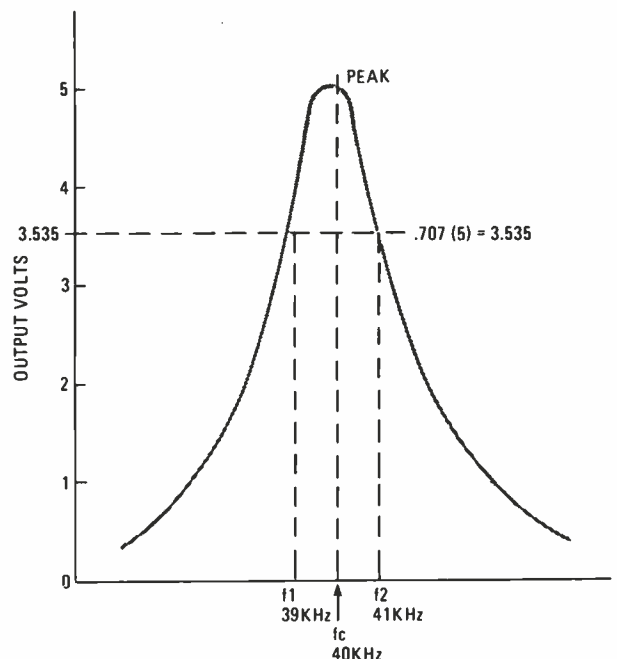

Fig. 6—A bandpass filter attenuates the frequencies outside the bandwidth. Actually it attenuates the frequencies in the bandwidth but not more than three dBs.
Another time you will run into decibels is in working with frequency response curves such as those produced by filters, amplifiers, or tuned circuits. Take the response curve of a bandpass filter like that in Fig. 6. That represents the voltage output with respect to frequency. The curve peaks at the center frequency f_c , then tapers off on either side. Note that the filter passes frequencies over a narrow range above and below f_c but rejects or at least greatly attenuates the others.
A measure of a filter performance is its *selectivity*. Selectivity refers to the ability of a filter to pass desired signals but reject others. A measure of the filter's selectivity is its *bandwidth*. Bandwidth (BW) is the difference between the upper (f_2) and lower (f_1) cut-off frequencies illustrated in Fig. 6.
The cut-off frequencies are those frequencies above and below f_c where the voltage is down 70.7% from the peak. For example, in Fig. 6 the peak is 5 volts. Now, 70.7% of that is $5 \times .707 = 3.535$ volts. That level defines f_1 and f_2 . Finding f_1 and f_2 permits the bandwidth to be computed. From Fig. 6, $f_1 = 39$ kHz and $f_2 = 41$ kHz. The bandwidth is: